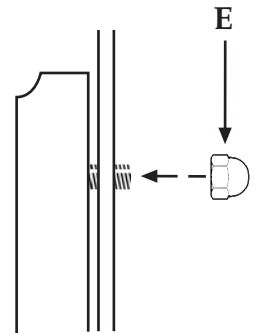

Figure 3
- 6) Using the acorn nuts provided (E), secure the plaques from the inside of the mailbox. *(See Figure 3)*